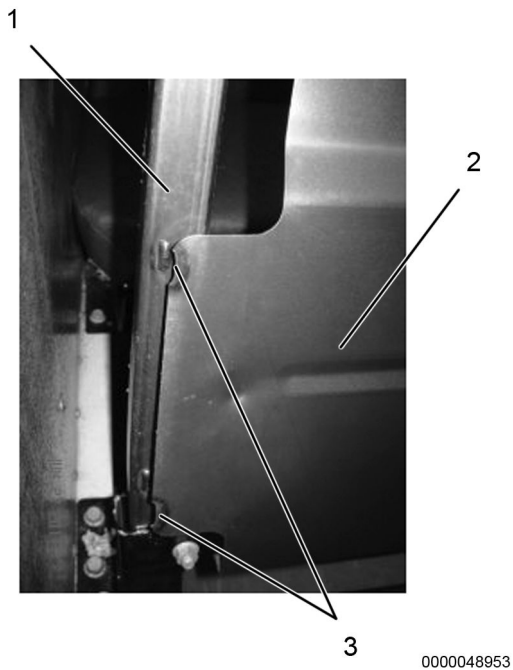

Figure 2. Back Pan Welds.
8. Inspect welds (Figure 2, Item 3) on back pan (Figure 2, Item 2) and back pan frame (Figure 2, Item 1) to confirm back pan failure. If no weld failure is found, reinstall upholstery and foam assembly and snap j-clip